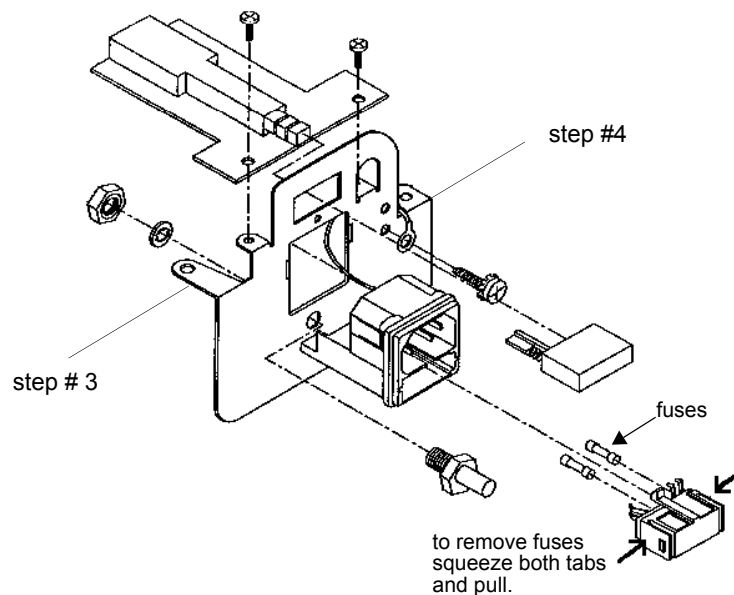

Figure 4-10: AC module
4. Remove the single screw from the AC module (refer to *Figure 4-10*).